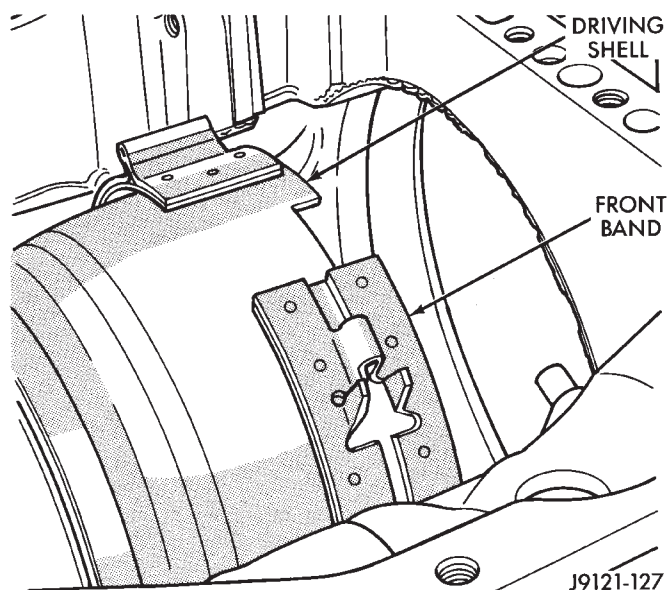

Fig. 143 Front Band Removal/Installation
(33) Slide front band off driving shell (Fig. 143) and remove band from case.